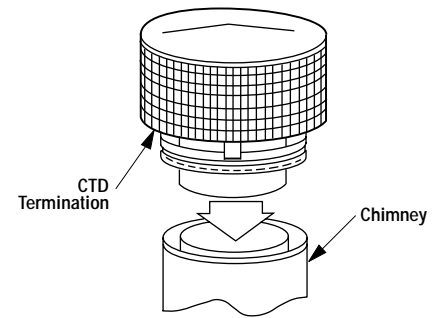

Figure 31
1. Hold the FTF8-CTD over top of last chimney section (*Figure 31*).